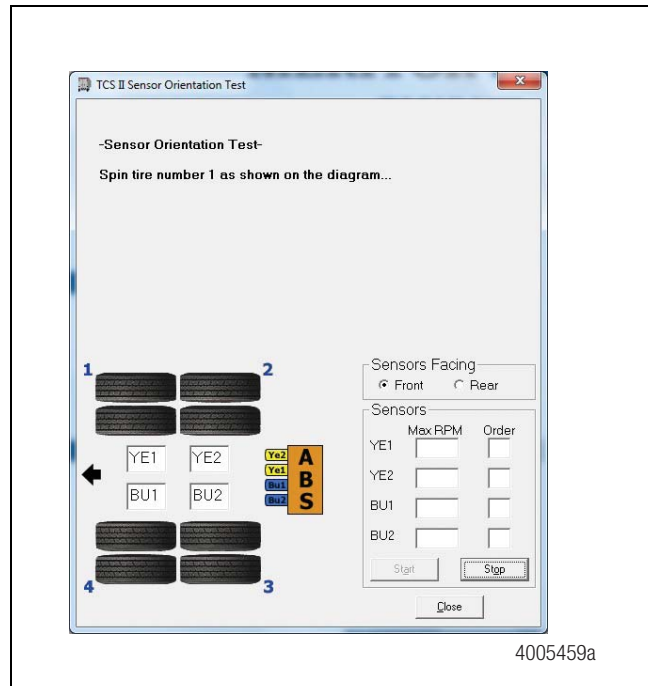

Figure 25
- Click on **Start** to begin the test. Figure 25.